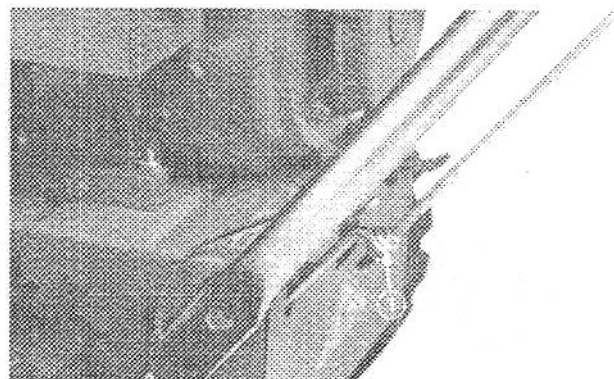

Figure 5
3. Thread a flange nut (flange side up) onto bottom of traction control rod to loop in lower traction rod (Fig. 5).